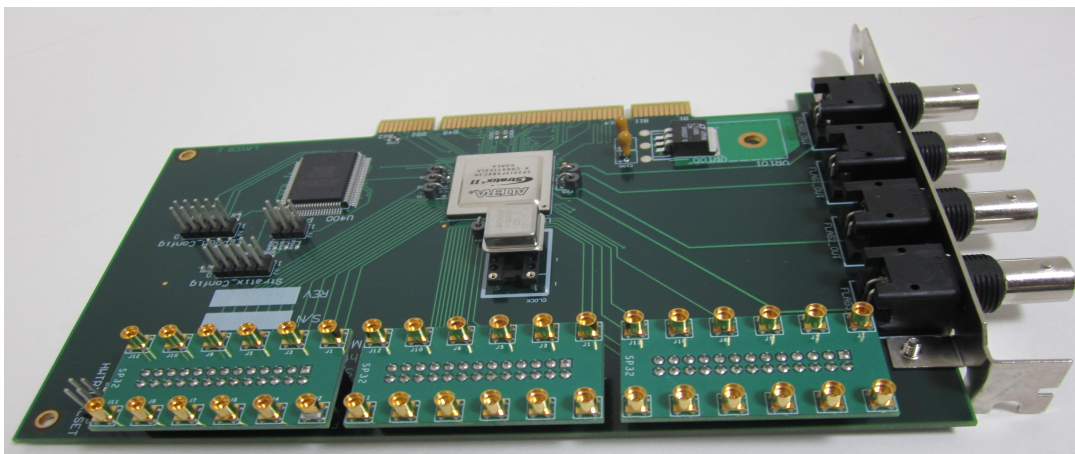

Figure19: MMCX Adapter Board allows easy access to individual bits
3. SpinCore MMCX Adapter Board Figure 19 – This adapter board allows easy access to the individual bits of the PulseBlasterESR-PRO boards. This adapter board can be part of a package that includes 12 MMCX to BNC cables and three SMA to BNC adapters. However, this package can be changed to include any number of cables and any number of adapter boards.